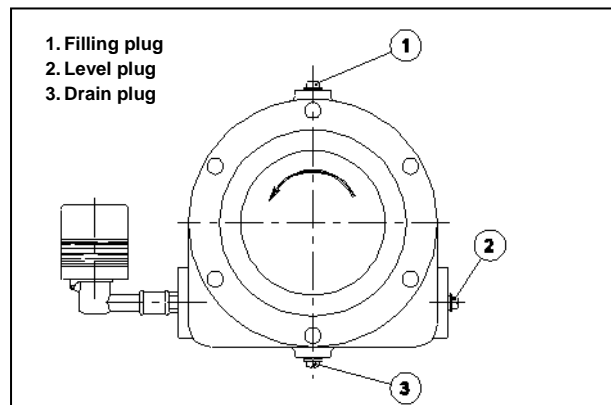
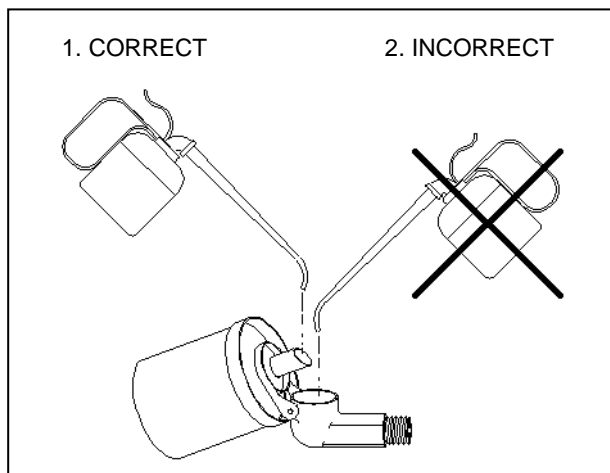

Fig. 5.3
Fig. 5.4
We can make the correct filling by introducing the oil through opening corresponding to the plug 1 (see Fig. 5.3) until the level is reached, checked by a small leakage through the opening corresponding to the plug 2. Then replace plugs 1 and 2 to add oil by oil feeder (as shown on Fig. 5.4) until the level stabilizes. The handling of the oil feeder must be done quickly to not destabilize the oil level inside the bearing.
2. Observe Fig. 5.4